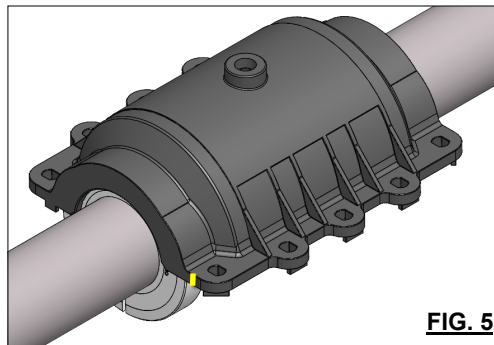
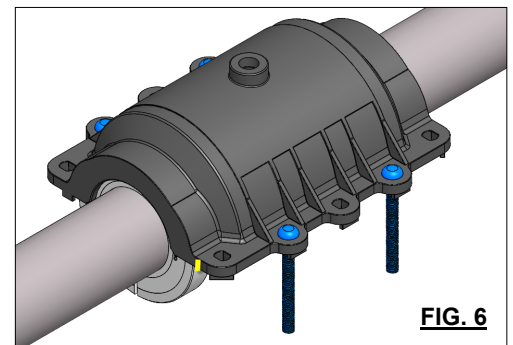

FIG. 5
FIG. 6
Step 4. Set the top half of the fitting, ensuring the rubber gaskets are fully seated inside the gasket glands (See Fig. 5). Insert longer starter bolts on each side of the fitting (See Fig. 6).